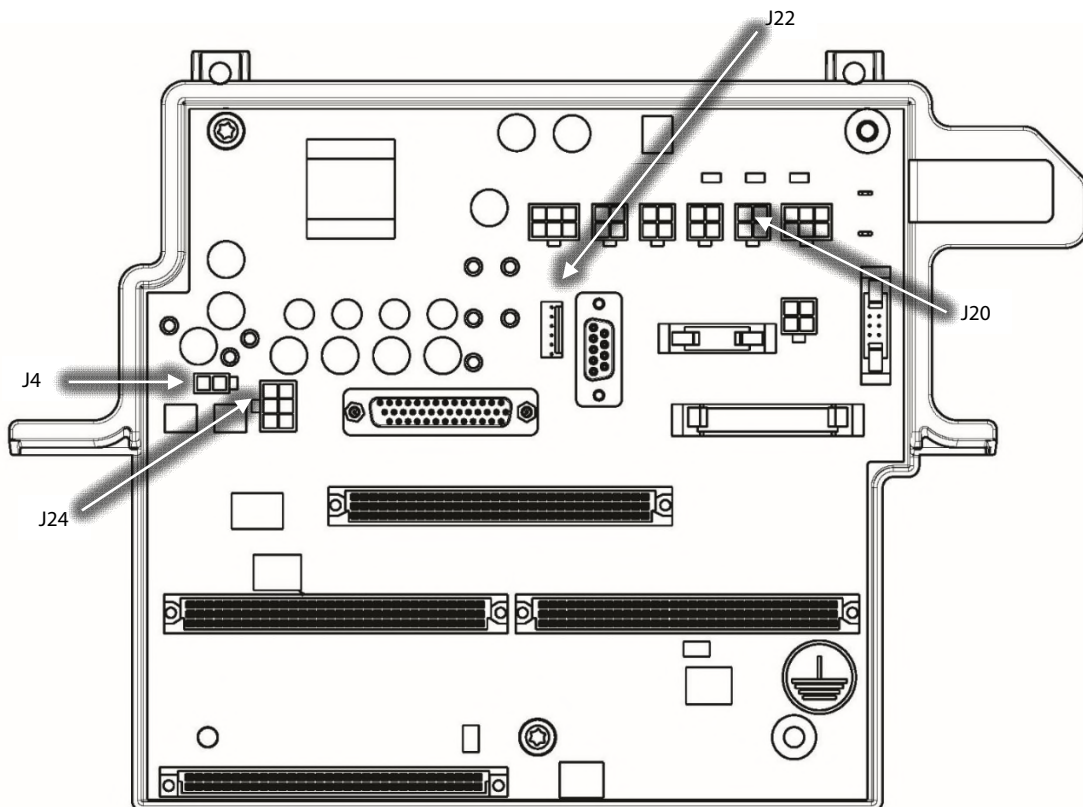

Figure 16 – Backplane Connector Locations
- f. Disconnect the J4, J20, J24, and J22 (if present) from the Backplane. Refer to Figure 16 – *Backplane Connector Locations*.